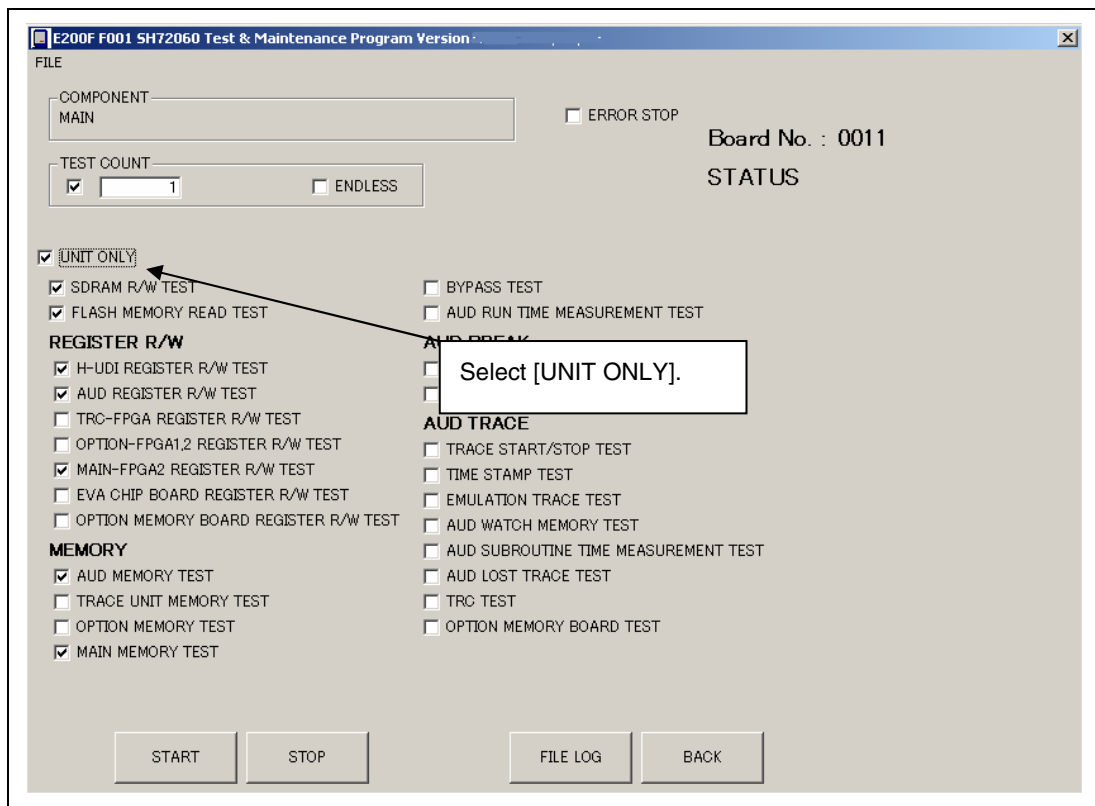

Figure 3.5 Screen for Selecting Test
9. When the emulator enters USER TEST MODE, the screen shown in figure 3.5 is displayed.